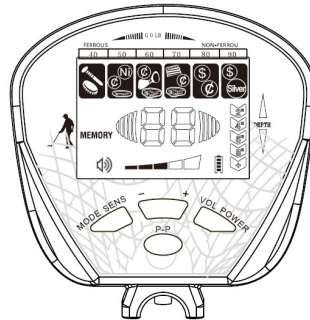

Fig.12
a) Press the MODE button again, the MEMORY cursor is lighted. And the target discrimination cursor is all lighted.(see Fig.12)
f) If you want to search other material metals, press the "MODE" button again. The MEMORY cursor still lights up, and still shows the same as Fig.12. Then repeat the above operation.
g) To quit the MEMORY mode, press the MODE button, making the detector return to the state of Fig.12. Then press the MODE button again, to quit the MEMORY mode, and enter the next operation mode.